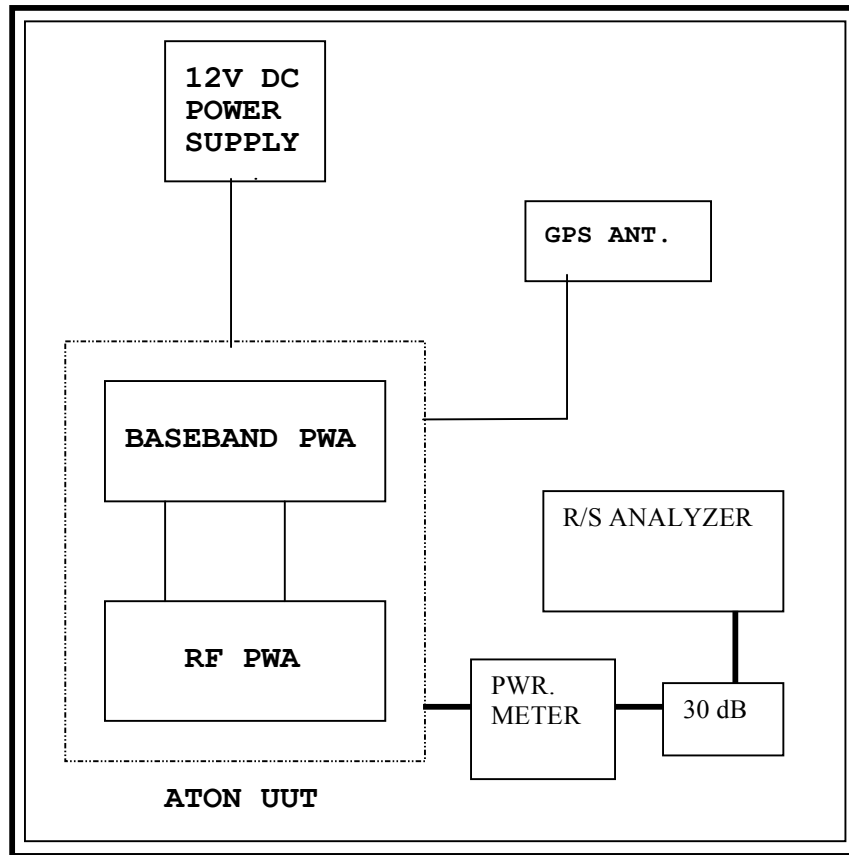

Figure 9
1. Connect the RF test cables per Figure 9. Connect a GPS signal to the UUT. Power on the UUT and record the nominal low power stand-by DC current reading **once the UUT has achieved GPS sync. and transmits successfully.** (This mA current value will be rounded up due to the resolution of the bench power supply). **Confirm that the UUT successfully transmits a message 21 on the assigned Tx slot and if the UUT is a ZENI PN: ATN01-121-00 or ATN01-321-00, transmits both a message 21 and a message 6 in the assigned slot(s).** Transmissions status can be monitored by opening 2ea. HyperTerminal applications connected to P2 and P3 and monitoring the UUT ARM and DSP port activity while monitoring the actual message burst signal(s) on the RS Analyzer.